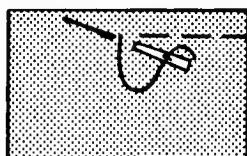

**Fig. 62.** An arrowhead stitch.
- C. Begin at A, within the tack, and bring the needle out at the base of the triangle (Fig. 62, a).
- D. Take a small  $\frac{1}{16}$ -in. stitch at B, from the right to the left parallel to the base, making a long stitch from A to B (Fig. 62, a).
- E. Insert the needle at C and bring it up close to A beside the stitch and repeat until the stitches from A to C meet at the center and the stitches across widen out from the  $\frac{1}{16}$ -in. stitch at the point, ending halfway down the sides (Fig. 62, b).
- G. The stitches should be even and close to one another so that the fabric does not show through (Fig. 62, c).